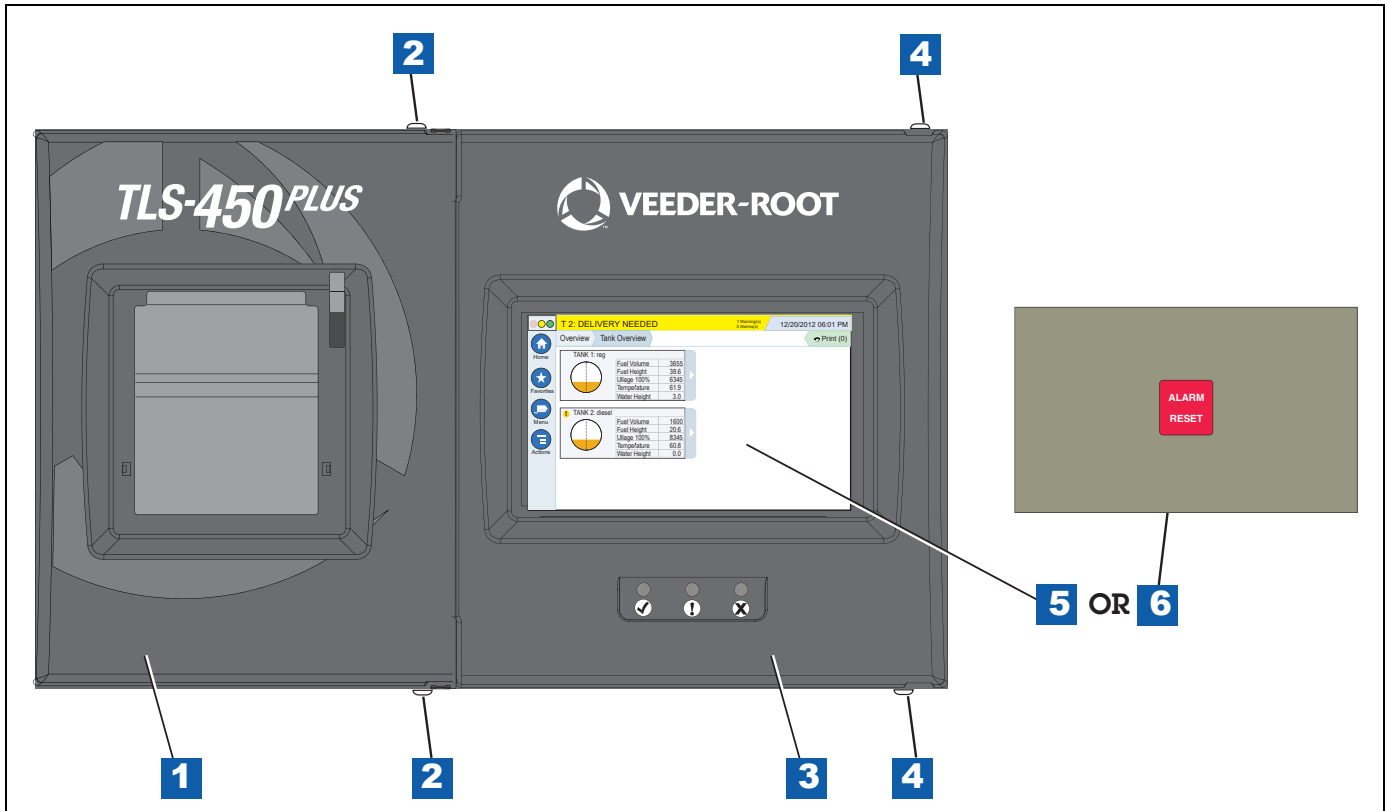

Figure 3. Opening The TLS-450PLUS Console Doors
- Figure 3. Opening The TLS-450PLUS Console Doors 4
1. Remove the both left and right door screws (with a T-15 Torx driver) and swing open both doors to the left (see Figure 3).
LEGEND FOR NUMBERED BOXES IN Figure 3
2. Remove both left and right door screws (with a T-15 Torx driver) and swing open both doors to the left (see Figure 3).